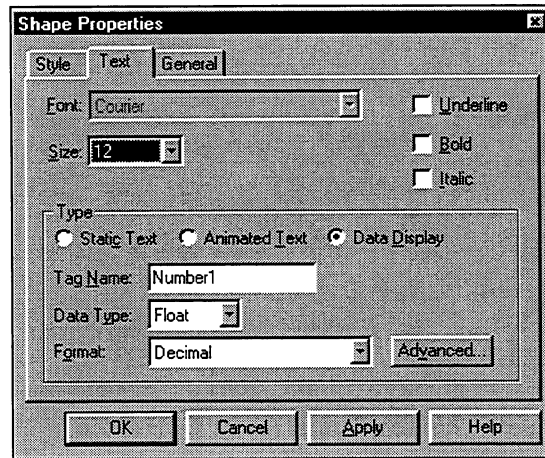

Figure 4-33. Specifying Data Display Options
7. Click on the Data Display radio button under Type, and then type “Number1” in the Tag Name text box, as shown in Figure 4-33.